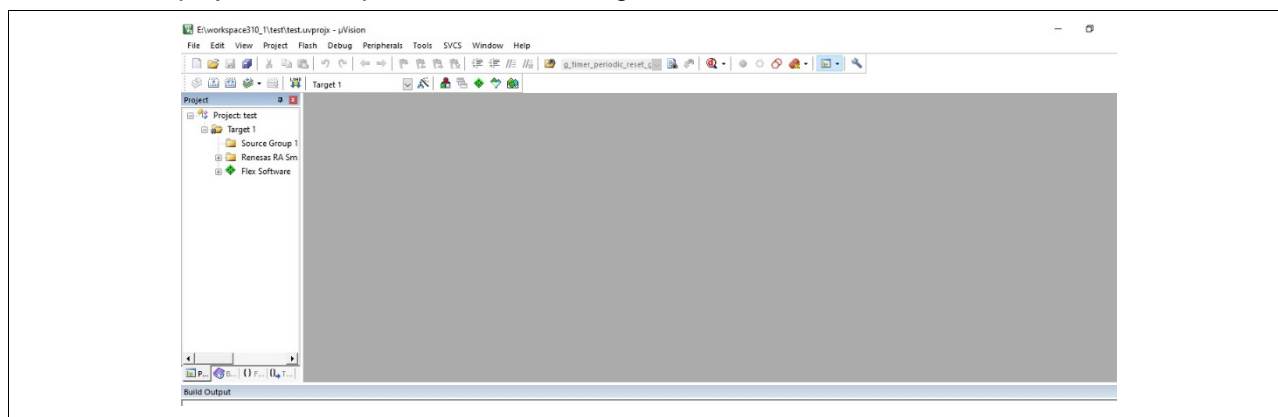

Figure 39. Keil Project
3. The Keil project will be opened as shown in Figure 39.